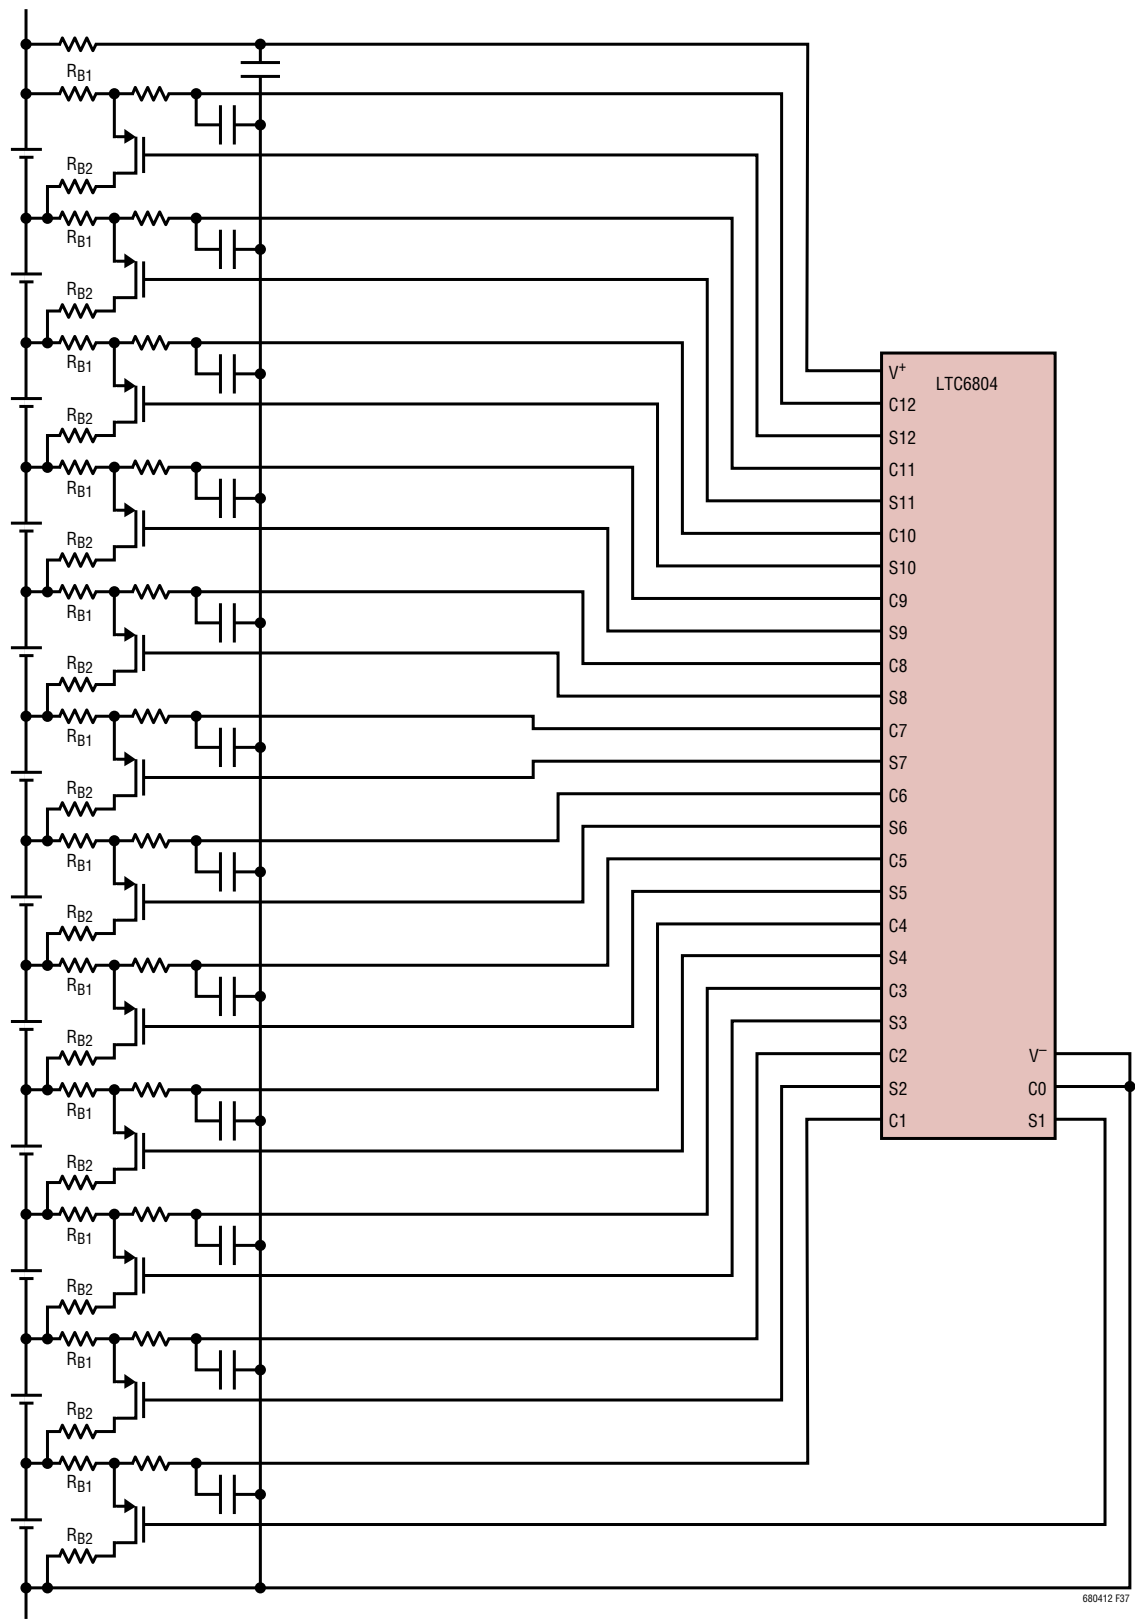

Figure 37. Balancing Self Test Circuit
The functionality of the discharge circuitry is best verified by cell measurements. Figure 37 shows an example using the LTC6804 battery monitor IC. The resistor between the battery and the source of the discharge MOSFET causes cell voltage measurements to decrease. The amount of measurement change depends on the resistor values and the MOSFET on resistance.
The following algorithm could be used in conjunction with Figure 37:
18. Compare new readings with old readings. Each cell voltage reading should have decreased by a fixed percentage set by R_{B1} and R_{B2} (Figure 37). The exact amount of decrease depends on the resistor values and MOSFET characteristics.